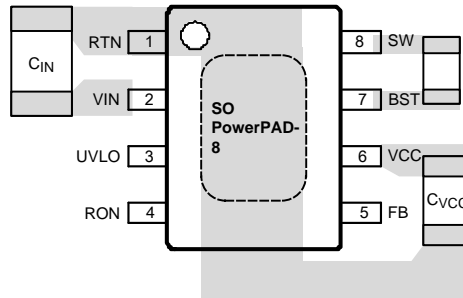

Figure 20. Placement of Bypass Capacitors
1.  $C_{IN}$ : The loop consisting of input capacitor ( $C_{IN}$ ),  $V_{IN}$  pin, and RTN pin carries switching currents. Therefore, the input capacitor should be placed close to the IC, directly across  $V_{IN}$  and RTN pins and the connections to these two pins should be direct to minimize the loop area. In general it is not possible to accommodate all of input capacitance near the IC. A good practice is to use a  $0.1\mu\text{F}$  or  $0.47\mu\text{F}$  capacitor directly across the  $V_{IN}$  and RTN pins close to the IC, and the remaining bulk capacitor as close as possible (Refer to Figure 20 Placement of Bypass Capacitors).
2.  $C_{VCC}$  and  $C_{BST}$ : The  $V_{CC}$  and bootstrap (BST) bypass capacitors supply switching currents to the high and low side gate drivers. These two capacitors should also be placed as close to the IC as possible, and the connecting trace length and loop area should be minimized (See Figure 20 Placement of Bypass Capacitors).